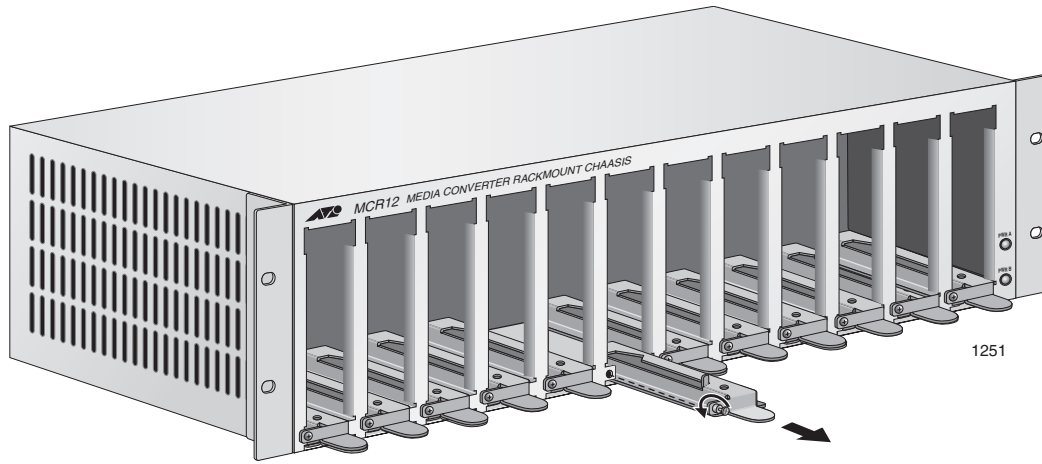

Figure 11. Removing the Mounting Rail from a Slot in the AT-MCR12 Chassis
1. Choose the slot in the AT-MCR12 chassis where you want to install the AT-CV1000 chassis and loosen the captive screw to remove the mounting rail from that slot, as shown in Figure 11.